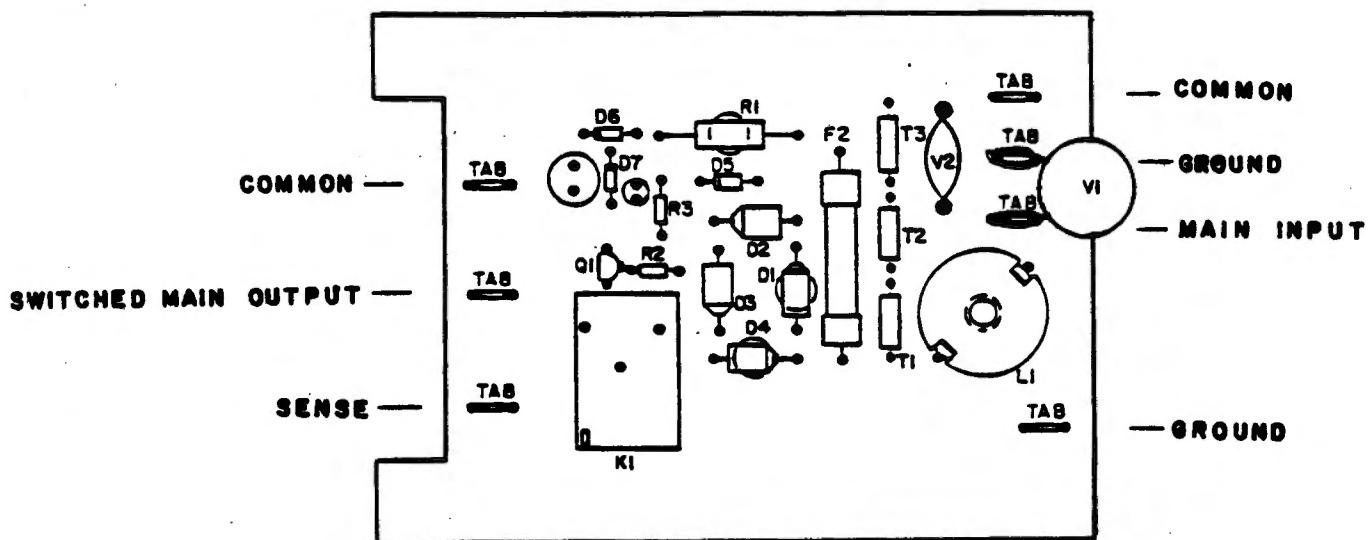

FIGURE 1
- 2) Install the new V2, S2ØK13Ø, in the two holes vacated by removing V1 and V2. Take great care that the leads of V2 do not touch the GROUND tab. Use short pieces of insulating tubing if necessary. See Figure 1.
- 3) Install the new V1, S14K13Ø, between the GROUND tab and the MAIN INPUT tab. Make sure that the leads are mechanically secure and as short as possible. Attach the leads as close to the circuit board as possible so that the push on connectors are not obstructed. See Figure 1.